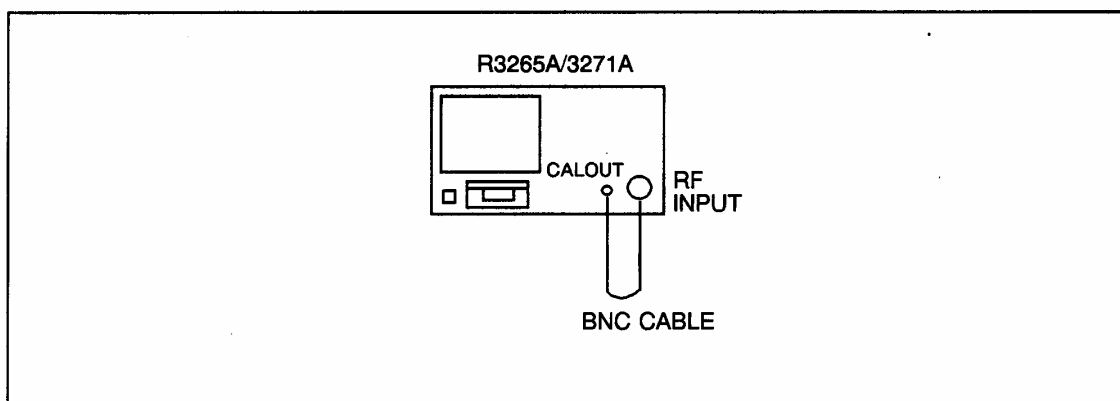

Figure 4-7 Resolution Bandwidth Accuracy/Selectivity Setup
- (1) Connect the R3265A/3271A CALOUT to the INPUT 50 Ω as shown in Figure 4-7.
- (2) Press **PRESET** and set the controls as follows: